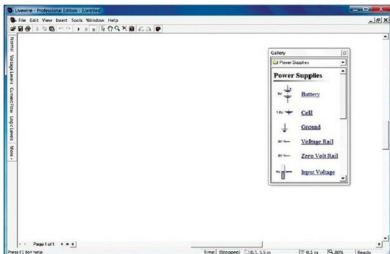

Fig. 2: Main window of LiveWire
2. A window with a schematic drawing panel and an additional window with the list of components will appear (Fig. 2).